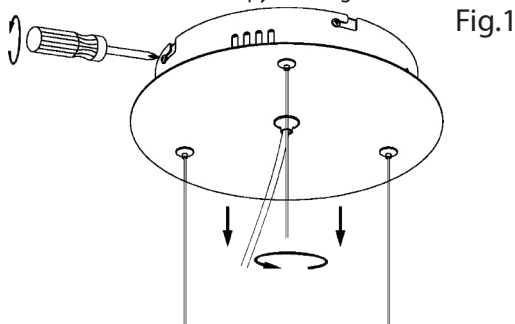

Fig.1
Step 2. Use a screw driver to loosen the 4 Canopy Screws on the side and rotate mounting bracket and take it out from the Canopy. See Fig.1